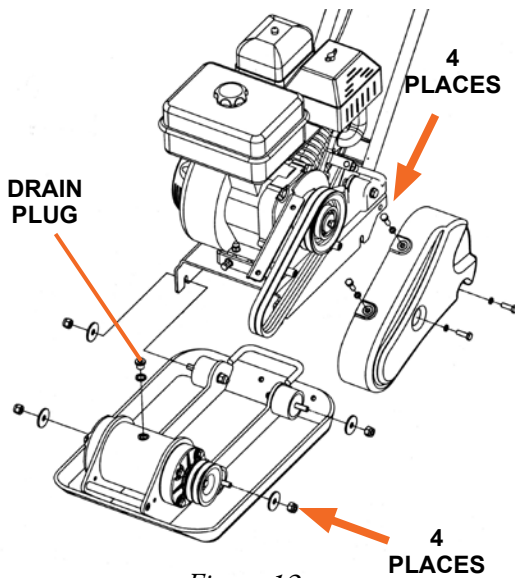

Figure 12
3. Remove bolts that secure the deck to the housing (see Figure 12).